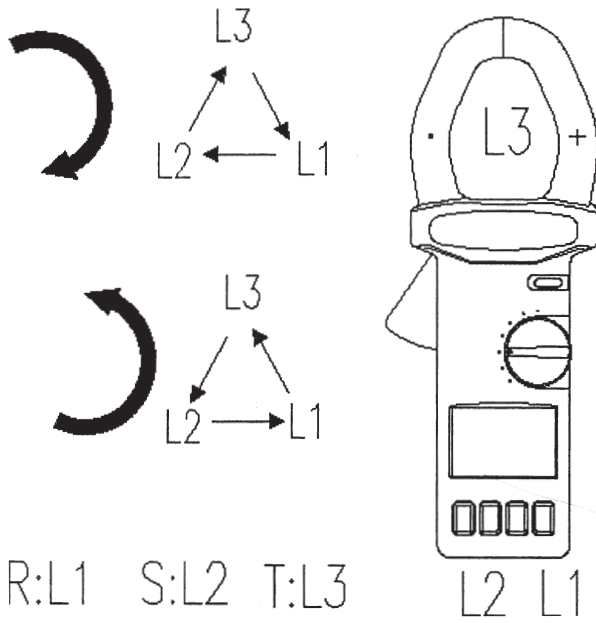

Fig.17
- 3.14.3. If the phase sequence is clockwise, R, S, T sequence will be shown and flashed. (refer to figure 17)
- 3.14.4. If the phase sequence is counterclockwise, T, S, R sequence will be shown and flashed. (refer to figure 17)